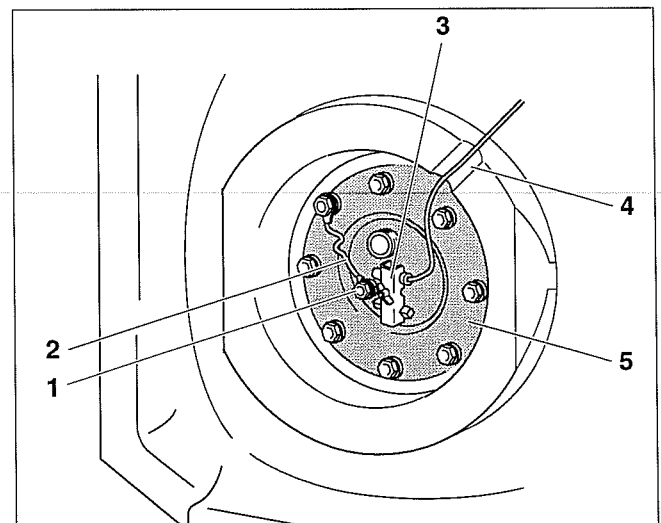

Fig. 12 Testing the Magnesium anode rod
- Guide the sensor wiring through the knock-out in the tank insulation (Fig. 12, **Item. 4**) to the clean-out cover.
- Slide the sensor under the strap-on clip (Fig. 12, **Item. 3**) on the clean-out cover and tighten this clip.
- Make sure that the ground cable (Fig. 12, **Item. 2**) of the magnesium anode rod (Fig. 12, **Item. 1**) is securely tightened to one of the clean-out cover bolts.